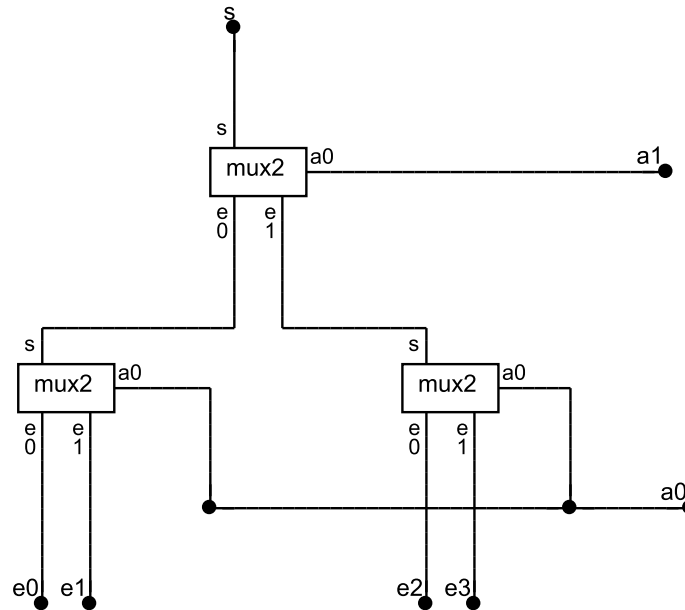

Figure 1.7: Three 2-input data multiplexer to create a 4-input data multiplexer
In this lab session the second approach will be used. To do so, three 2-input data multiplexers are needed (that is, three instances of the macro `mux2`). In figure 1.7 the way in which the three macros are connected is shown. You must follow these steps:
- ☐ Create a circuit following the diagram shown in figure 1.7, using the component `mux2`.